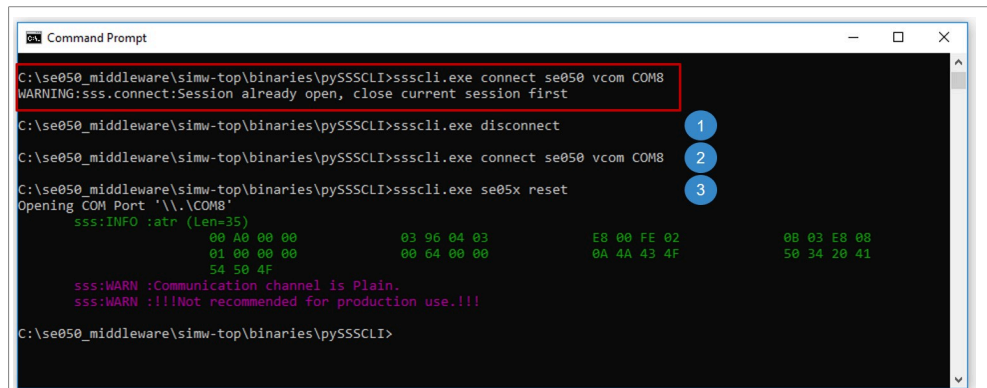

Figure 11. Close an already opened session
**Note:** If you see the following message: `WARNING:sss.connect:Session already open, close current session first` as shown in Figure 11, it means that you have a session open. To close it, send: (1) `> ssscli disconnect` and then send once again (2) `>ssscli connect se050 vcom <COM_NUMBER>` and later (3) `>ssscli se05x reset`.